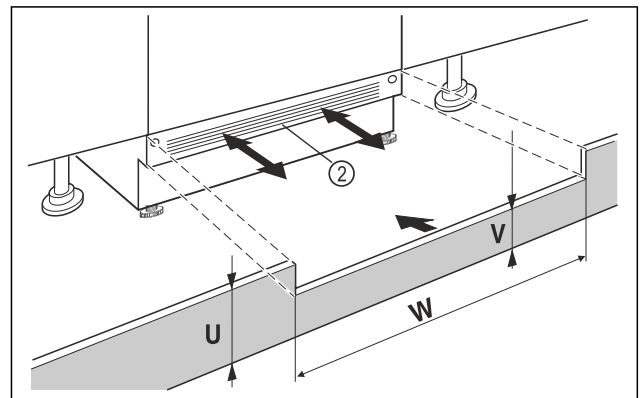

Fig. 13 Example illustration
- Put on the appliance base cover *Fig. 13 (2)* but do not fix it yet.
- If the base cover *Fig. 13 (2)* is visible, pull it so far forward that the front edge of the ventilation grille and the unit base cover form one level.
- If the base cover is concealed *Fig. 13 (2)*, push it all the way back.
- Ensure that the ventilation slots are completely free: If necessary, cut the height of the unit base cover *Fig. 13 (U)* to size!
- Adjust the bar height *Fig. 13 (V)* under the appliance base cover *Fig. 13 (2)* along the recess width *Fig. 13 (W)*.